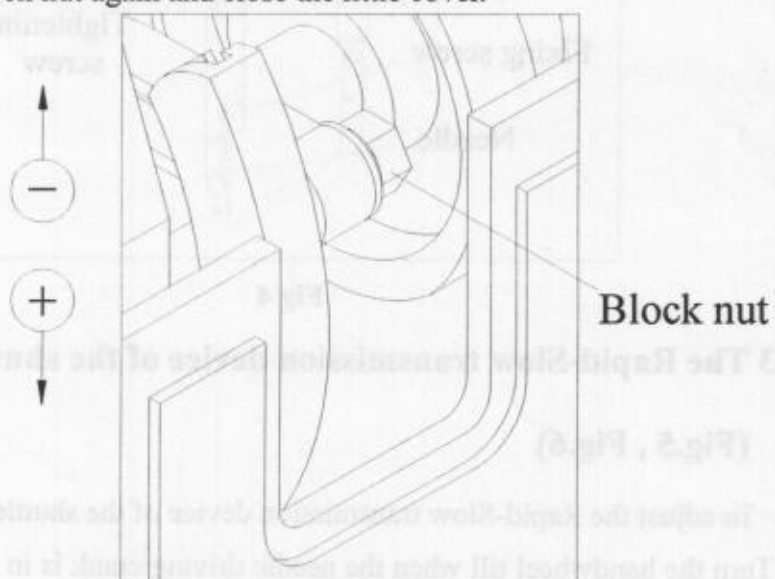

Fig.3
3.4 Stitch length adjustment (Fig.3)
- Slide the lever along the sector: upwards to shorten the stitch length, and downwards to lengthen stitch length. (as shown in Fig.3)